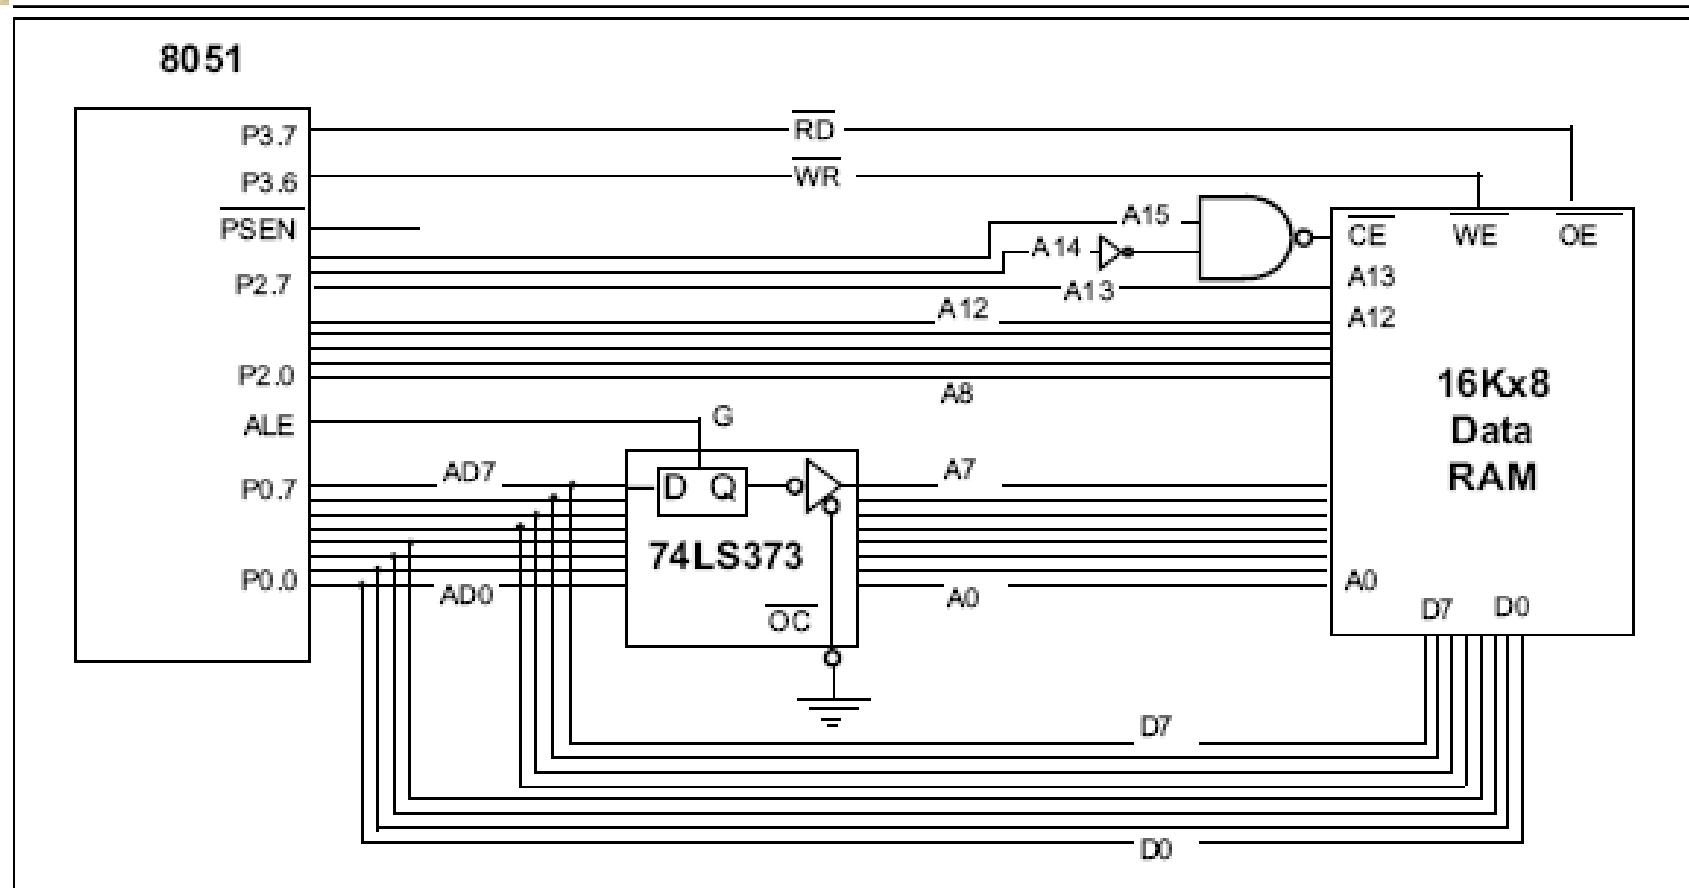

Figure 14-15. 8051 Connection to External Data RAM
- (b) What is the address space allocated to data RAM in Figure 14-15?